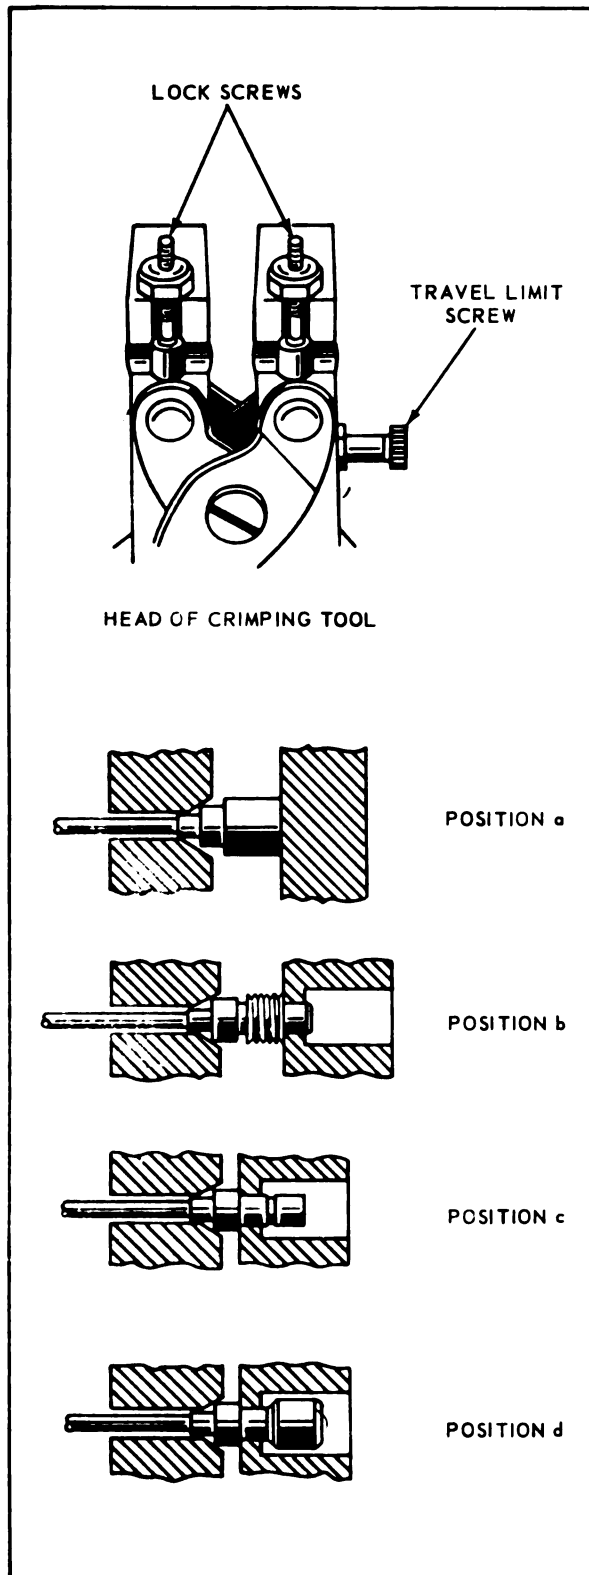

Figure 4-39. Crimping Subminiature RF Connectors
a. Open jaws of tool 27-900 by loosening nut and pulling down lock screws (see figure 4-39). Place the connector assembly in jaws, and set optimum distance between jaws for each assembly by means of the travel limit screw. Refer to connector placement figure 4-39 a, b and c for straight plugs and jacks, and figure 4-39d for angle plugs.